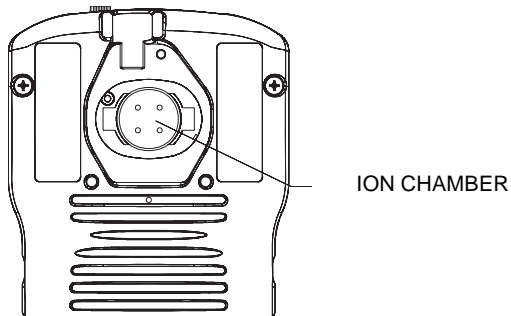

Figure 22: Ion Chamber Installation
6. Snap the ion chamber into the cell holder, with the four small, round holes facing up as shown in Figure 22.